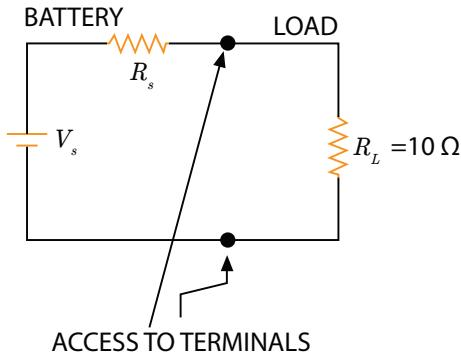

Figure 3.4.2: A non-ideal battery connected to a load.
5. Consider the model of the practical battery shown in Figure 3.4.2. When no load is connected to the battery, the terminal voltage is measured at 8.8 V. What is the value of V_s .